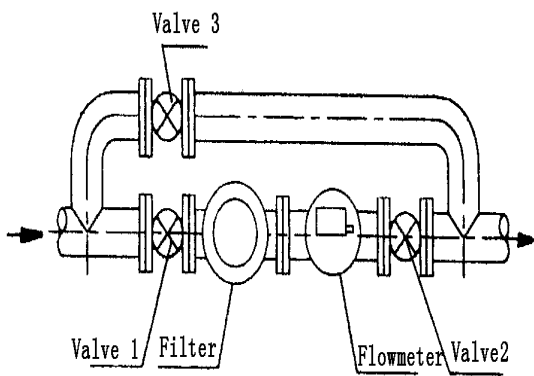

Fig.4
Installation Sketch See Fig. 4
1. Installation See Fig.4
- c. The flowmeter shall be installed vertically on the horizontal main pipeline. The bypass pipeline shall refer to Fig.4. The horizontal piping shall leave space for maintenance.
The flow integrating instrument adopts instant flow and accumulated flow switching display methods and provides three-wire system pulse remote transmission output, see Fig.4. All key operation must be done while the instrument is running(With flow input). Or the instrument will be in low-power dissipation sleeping status.